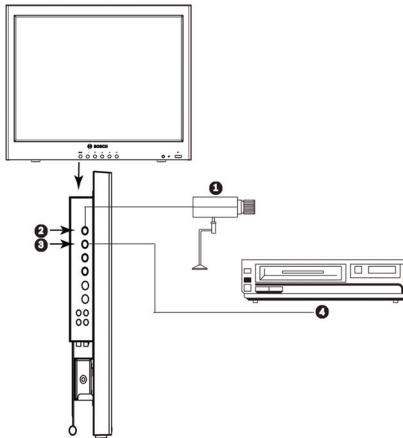
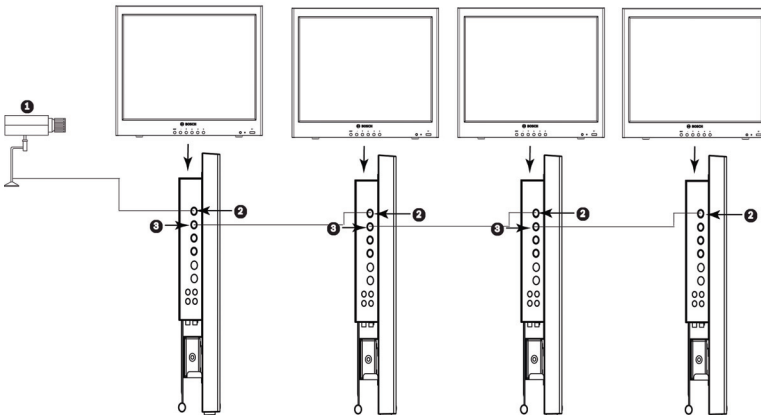

Figure 4.7 Single Monitor Configuration
Figure 4.8 Multiple Monitor Configuration
Note: All video inputs are passive loop-through. The impedance is automatically set to 75 ohm by the input of the signal on the input connector, while operating in a single connection mode (see *Figure 4.7*). If a cable is also connected to the output connector, the video signal can be passed on to another monitor connected to it via the passive loop-through function. Up to three (3) monitors may be connected in this manner (see *Figure 4.8*).